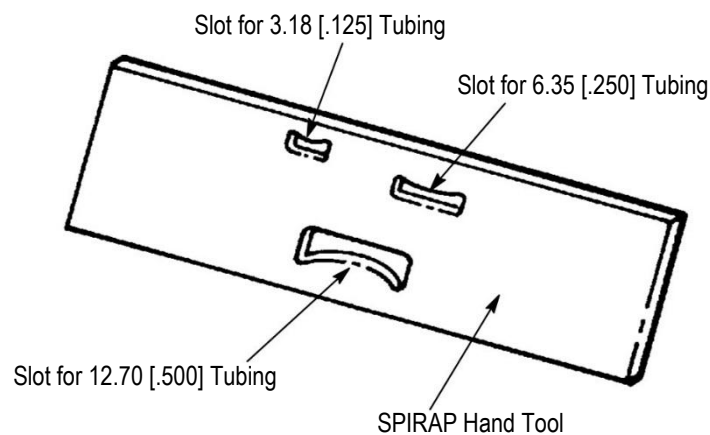

Figure 1
This instruction sheet cover the use of SPIRAP Hand Tool 500901 (shown in Figure 1), which is used to wrap SPIRAP tubing around a bundle of wires. Read these instructions carefully before using this tool.
2. Select the appropriate slot according to the size of the SPIRAP tubing. See Figure 1 for slot sizes.